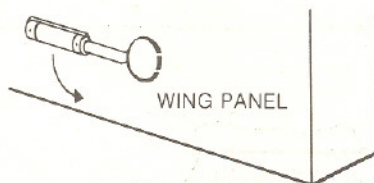

FIG. 3
- Remove Pry-disc from Wing Panel---with knife blade as shown in Fig. 3. Insert blade at rear, then pry forward.